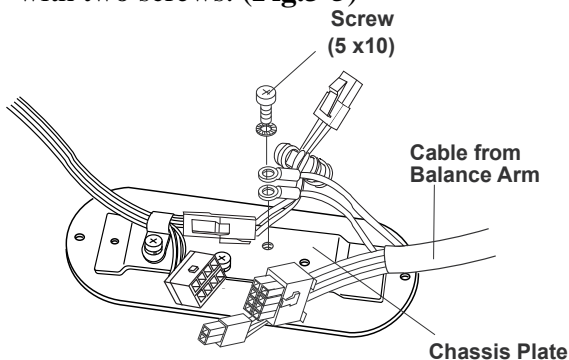

Fig.3-7A Attaching Grounded Wires on Bottom Cover
4. Secure the 3 wires (Grounded wires) with ring terminals together with the (M5 x 10mm) screw on the bottom cover. (**Fig.3-7A**)
Note : Three ring terminals should not protrude from a chassis plate. (**Fig.3-7A**)